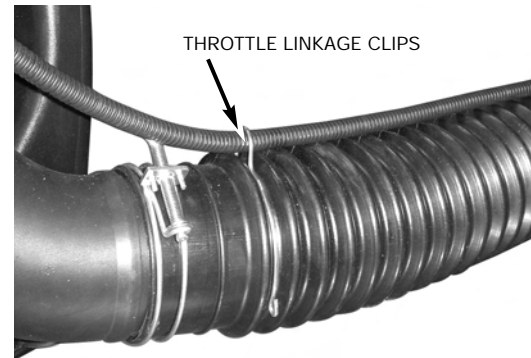
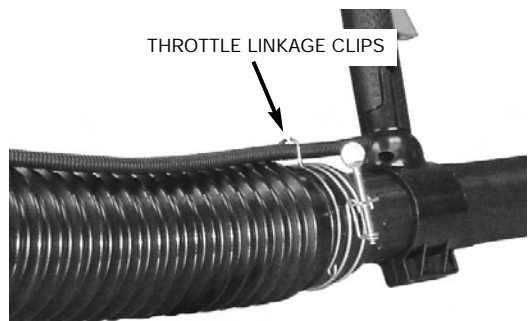

Fig. 5
Fig. 6
3. Attache throttle linkage clips (# 24-know your blower)- to both ends of the flex tube. (See Fig. 5 and Fig. 6)